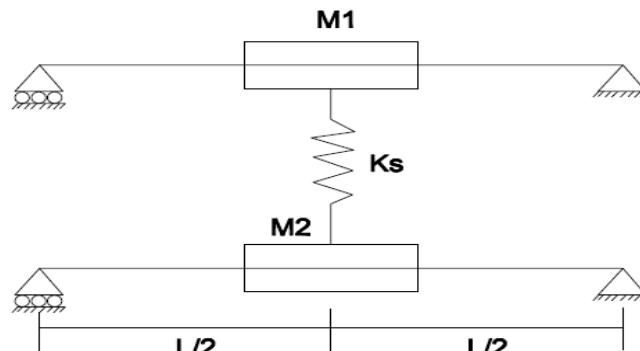

Figure 3
- 8 For the system shown in Figure 3, write the frequency equation in terms of M_1 M_2 E_1 , l and K_s . Neglect the mass of the beams. 14 M